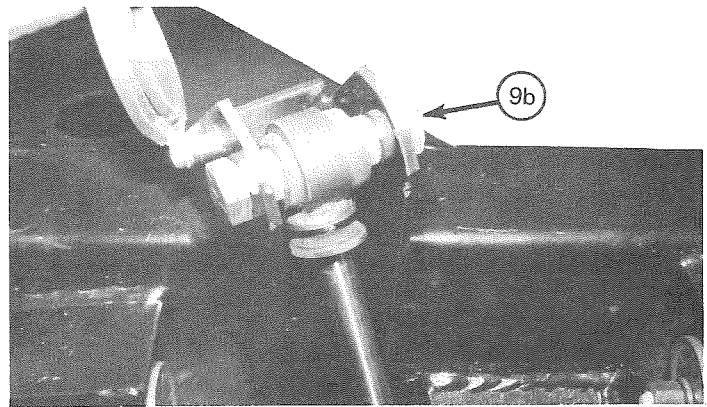
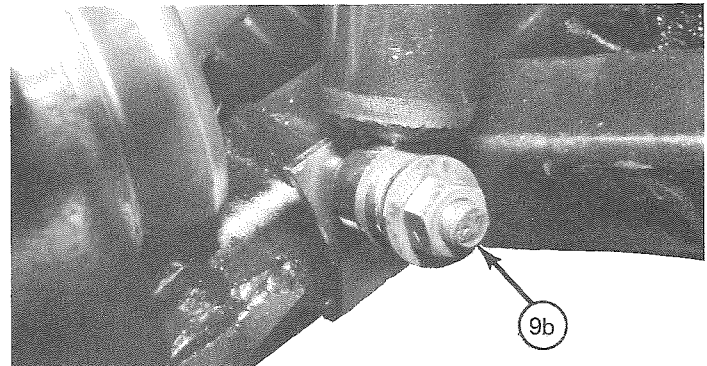

Figure 122 – Front Shock Installation
Figure 123 – Front Shock Locknut
b. Install bolt and nut at top of shock (figure 122). Install nut only at bottom of welded stud on lower arm (fig.123).